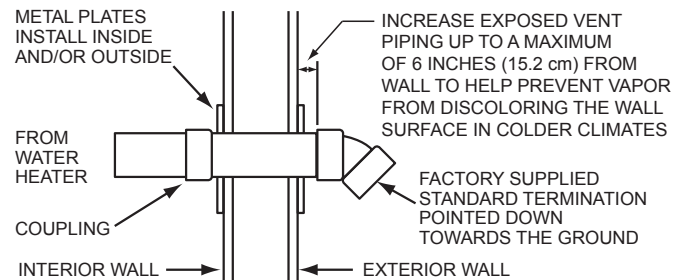

Figure 26. Side-Wall Termination Installation:
- Cut a length(s) of pipe being installed 3.5 inches (8.9 cm) to 9.5 inches (24.1 cm) longer than the wall thickness at the opening. See **Figure 26** (page 27).
- Working from outside, slide the pipe and termination(s) assembled in the above steps through the wall. Ensure the termination(s) is pointed down towards the ground. See **Figure 26**.
- Install a coupling to the end of the pipe(s) inside the building. Before the silicone caulking has time to completely set go outside the building and ensure the termination(s) is still pointing down towards the ground. See **Figure 26**.